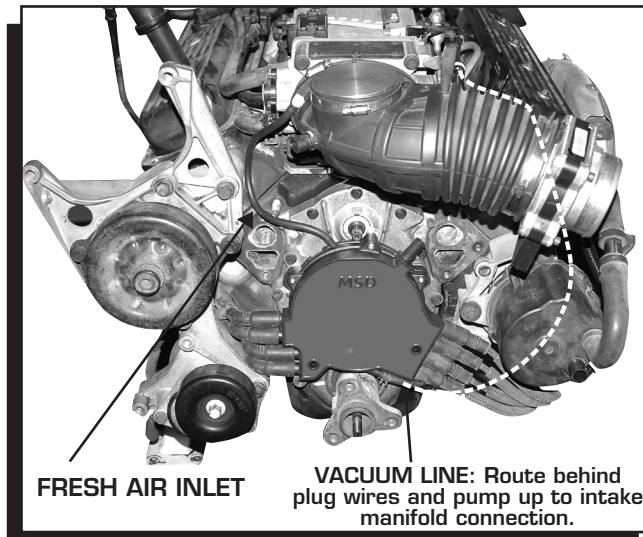

Figure 11 Fresh Air Hose Routing.
4. Locate the supplied 90° vacuum nipple. Using a 3/16" drill bit, drill a hole in the air intake duct and install the nipple (Figure 9). Make sure the barb goes through and into the duct. Connect the line from the distributor cap to this inlet. This line completes the fresh air circulation through the distributor cap (Figure 11).